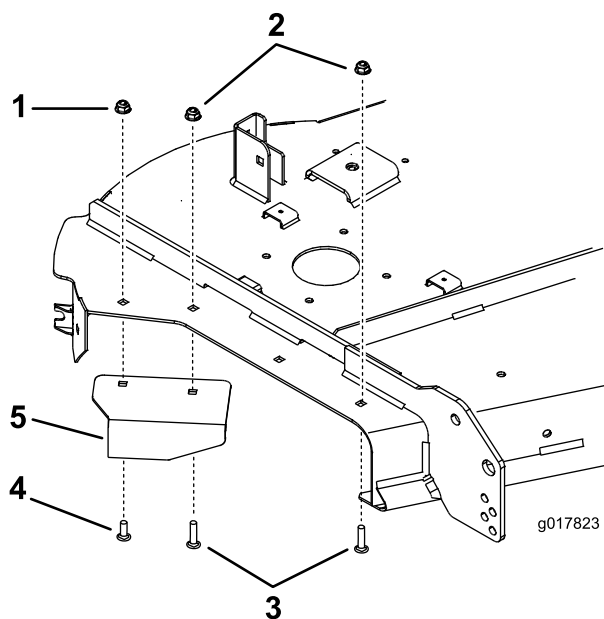

Figure 20
3. Install the new baffle with a carriage bolt (5/16 x 1 inch) and nut (5/16 inch) from the previously removed baffle (Figure 20). Use a new bolt (5/16 x 1-3/8 inches) and flange nut (5/16 inch) to secure one side of the baffle (Figure 20).
4. Install a carriage bolt and flange nut into the front hole shown in Figure 20.